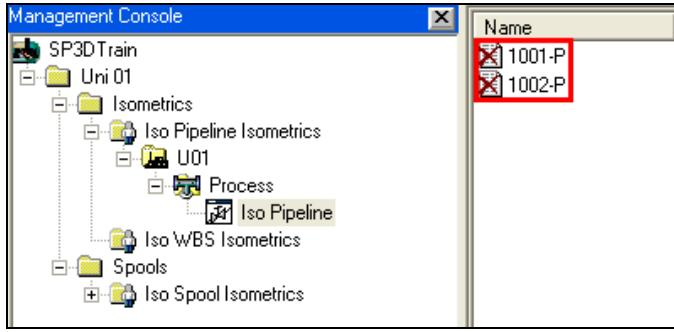

Figure 51: Isometric Drawings for Pipelines in U01 in the Management Console
- SP3D generates isometric drawing documents for all the pipelines available in Unit **U01**, as shown in Figure 51.